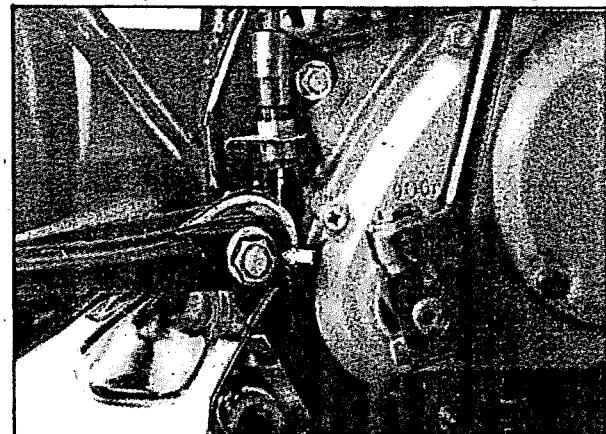

Fig 4.11
- Remove the swing arm shaft nut (fig 4.11)